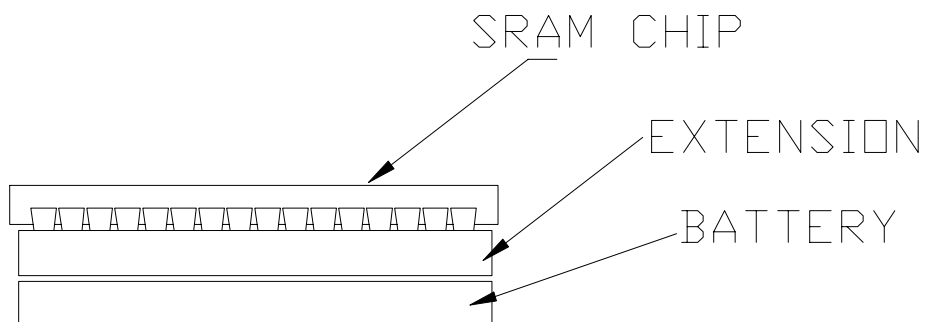

Figure 4-14 SRAM Chip, Extension and Battery Side View
4. Carefully separate the socket batteries from the socket extensions (*see Figure 4-14*). DO NOT remove the SRAM chip from the extension.